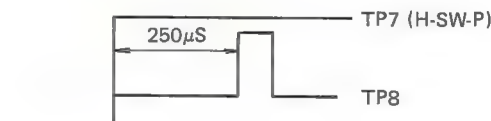

Figure 42
3. Selecting (+) sync slope with the oscilloscope, adjust R701 to meet the requirement given in Figure 42.